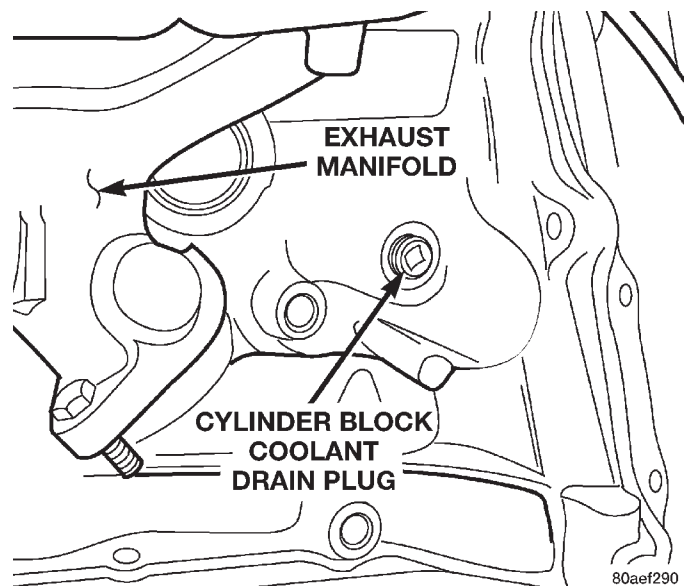
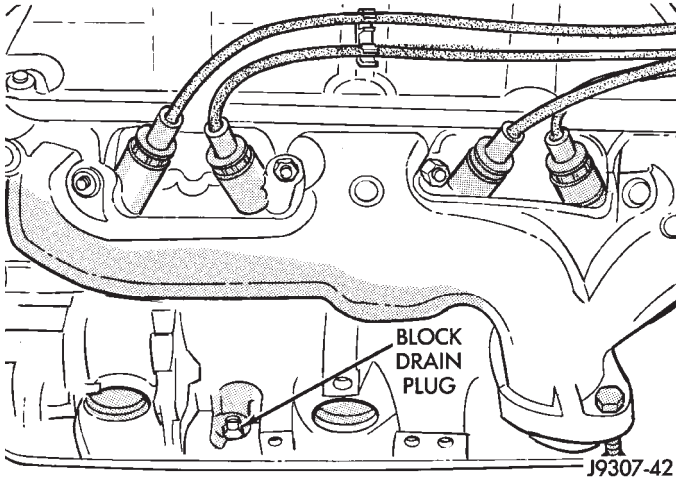

Fig. 57 Cylinder Block Drain Plug—4.0L Engine
Fig. 58 Cylinder Block Drain Plug—5.2/5.9L Engines—Typical
- (1) Disconnect battery negative cable.
- (2) Drain coolant from radiator. Refer to Draining Cooling System in this group.
- (3) Raise vehicle.
- (4) Remove engine cylinder block drain plug(s) located on the sides of cylinder block above the oil pan rail (Fig. 57) (Fig. 58).